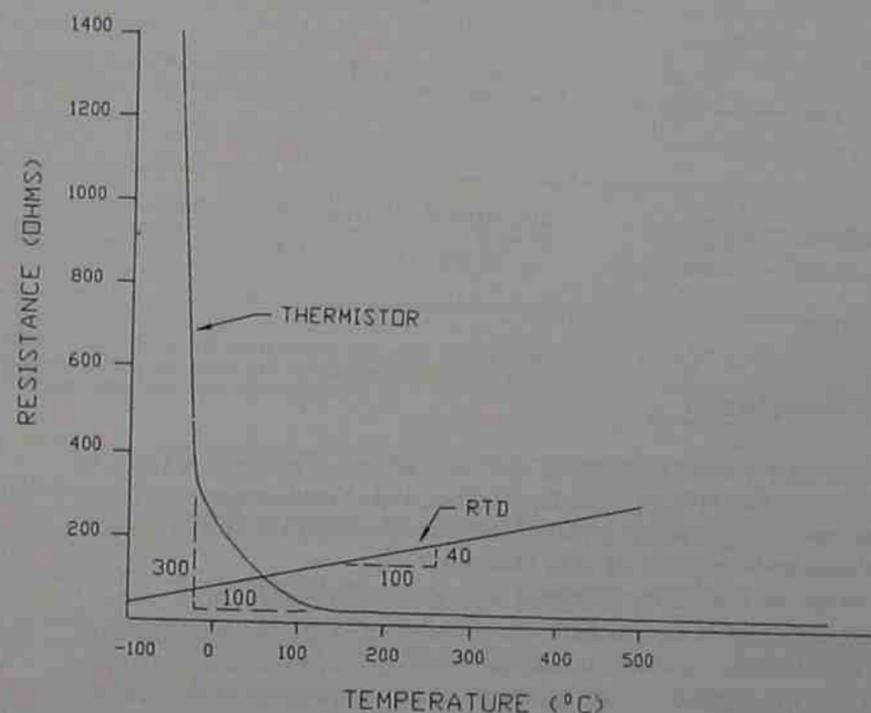

Figure 13-10 Temperature versus resistance curve for a thermistor.
Because a semiconductor's resistance decreases with an increase in temperature, which is a behavior pattern opposite to that of metals, semiconductors are said to possess a *negative temperature coefficient*. Figure 13-10 depicts a typical resistance versus temperature curve for a thermistor semiconductor. You can conclude from observing this curve that a thermistor is not considered a linear device, especially when compared to the RTD curve also shown in Figure 13-10. Both curves shown are only typical curves. Thermistors can be manufactured so that different resistance values can be formulated to occur at a particular temperature, say at 0 or 25°C. These values can range from 100  $\Omega$  to as high as 1 M $\Omega$  for these temperatures. If the resistance versus temperature curves of these other thermistors were plotted alongside the one in Figure 13-10, you would observe a family of curves paralleling the one shown in Figure 13-10.
The thermistor is generally a more sensitive sensor than the RTD. Since the sensitivity of any sensor is found by *dividing its output signal by its input signal*, this quantity is reflected in the amount of the slope in its plotted response curve. In other words, for the thermistor, we can observe the slope of its temperature versus resistance response curve (refer again to Figure 13-10), compare it to the slope of the RTD curve, and see immediately that the thermistor is far more sensitive than the RTD to a given change in temperature (assuming that we neglect the very high temperature end of the thermistor's response curve).
Using the slope information shown in Figure 13-10, compare the sensitivities of the thermistor and RTD.
**Solution:** The sensitivity amount for the thermistor obtained from the slope information in Figure 13-10 is the following.